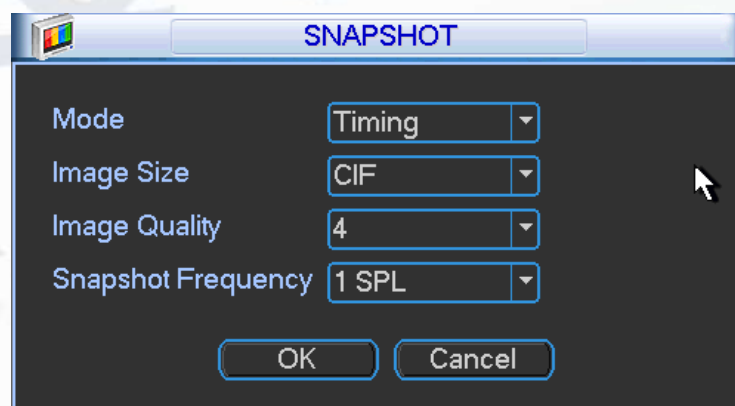

Figure 5-20
- **Snapshot:** Click the snapshot button, you can set the snapshot mode, picture size, quality and frequency. See Figure 5-20.